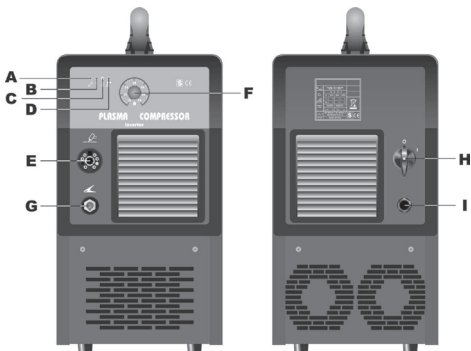

Figure 2
To prevent overloading. This can be seen by the LED C (see fig. 2) lighting up continuously.
Located on the torch inlet to prevent low air pressure. The LED D (see Fig. 2) lights up when it is activated. It means that the pressure is temporarily below $3.2 \div 3.5$ bar.
The machine must be installed by qualified personnel. All connections must be made in accordance with the current safety current safety standards and in full compliance with respect of the safety regulations (see CEI 26-23 - IEC TS 62081). Connect the power supply cable (fig. 2): the yellow/green wire must be connected to an efficient earth connected to an efficient earth contact on the system. The other wires must be connected to the power supply cable by means of a switch that is as close as possible to the cutting area, so that it can be quickly be switched off in an emergency. The capacity of the switch or of the fuses in series with the switch must be equal to the current I_{1eff} absorbed by the machine. The absorbed current I_{1eff} can be determined by reading the technical specifications indicated on the machine under the available supply voltage U_1 . Any extension cables must be of the correct size for the current I_{1max} absorbed.
3. USE (see Fig. 2)
In case of maintenance inside the machine, make sure that switch H (fig. 2) is in position "O" and that the power cable is disconnected from the mains. Also check that there is no voltage at
The LED B (Fig. 2) lights up when the following conditions occur: